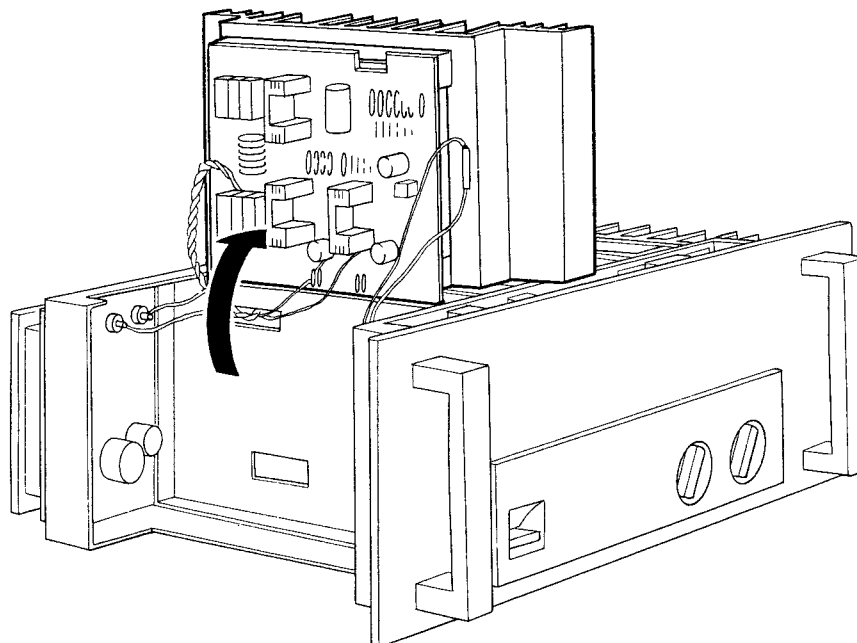

Fig.3
(3) Turn the heat sink around by 180° as shown in Fig. 3 and set it on the chassis. Parts replacement voltage measurements on the driver circuit board can now be made.